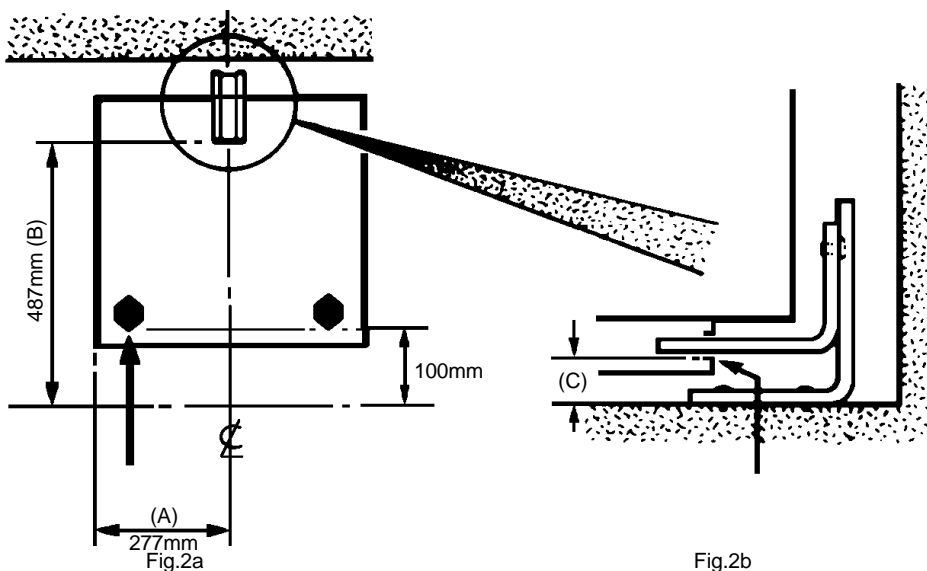

Fig.2b
3. Draw a line 100mm from the front edge of the levelling feet (see Fig 2a) and remove appliance from its position. Mark off dimension 'B' (see Fig 2a) back from this line on the centre line of the bracket to locate the front edge of the lower bracket. Fix lower bracket (with two fixing holes) to the floor then measure the height from floor level to engagement edge on back of appliance, dimension 'C' of Fig. 2b.
4. Assemble upper bracket to lower bracket so that underside of bracket is dimension 'C' + 3mm above floor level. (see Fig. 2b).
Reposition appliance and check that top bracket engages into appliance back as shown in Fig. 2b.